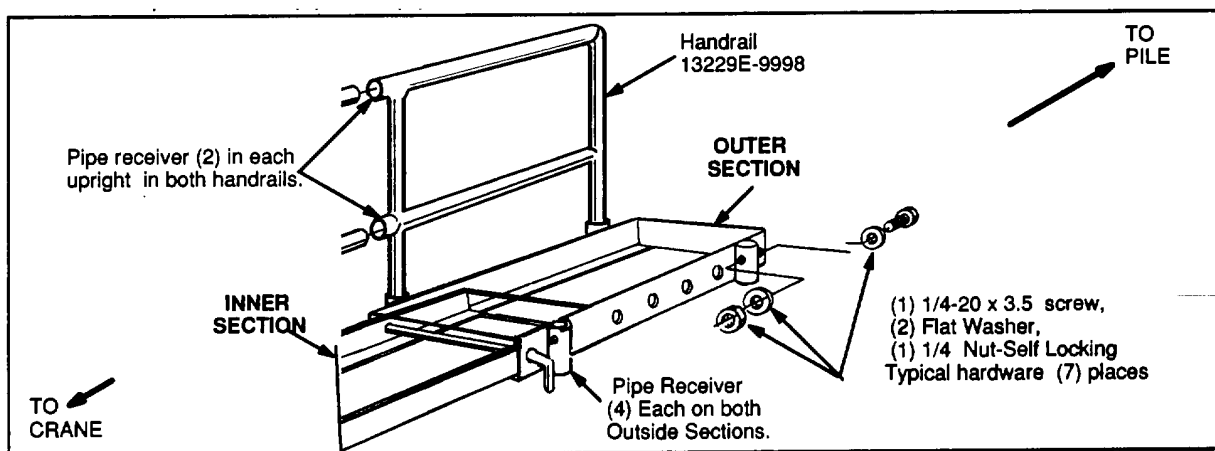

Figure 3. Assembling the Handrails to the Outer Section
a. Insert Handrail (13229E-9998) into the pipe receivers on the Catwalk Outer Section nearest the lead (see Figure 3). Install so that the pipe receivers on the vertical members face the crane.
a. Insert (1) 1/4-20 x 3.5 (MS90728-20) screw through (1) 1/4" flat washer (MS 27183-52) and then through the pipe receiver hole in the Catwalk Outer Section and through the aligned holes in the ends of the Handrail just installed. Install (1) 1/4-20 self locking nut (MS51922-1) to the screw and tighten.
b. Repeat for the (3) other pipe receivers on this Outer Section.